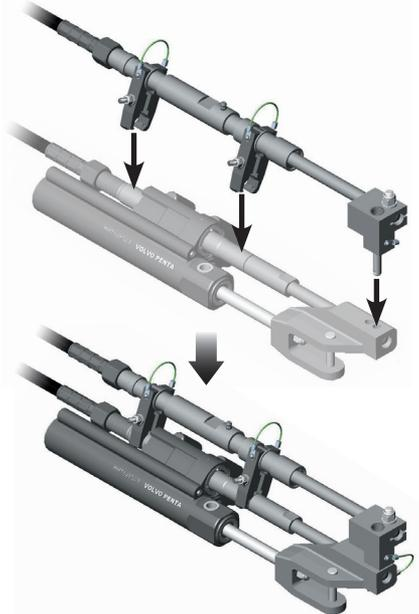

Fig B36 - Fitting connection kit to steering cylinder
- i) Position the connection kit assembly above the steering cylinder as shown (Fig B36). Hold the two clamp assemblies open so they will fit over the manual steering cable guide tube, at the same time ensure that both clamps remain engaged in the YELLOW color coded slots of the secondary cable guide tube.